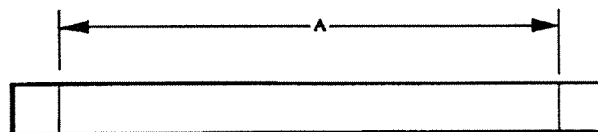

Fig. 1-1. Measuring the Wear Ring
The front wear ring should be checked for both wear and damage by measuring the inner diameter (A) at several places (Fig. 1-1).